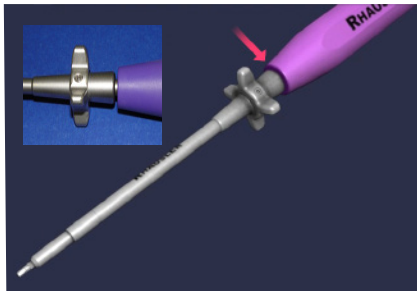

Figure 42
- Prior to loading the screwdriver, be sure that the outer locking mechanism is pulled up flush to the handle (fig. 42).